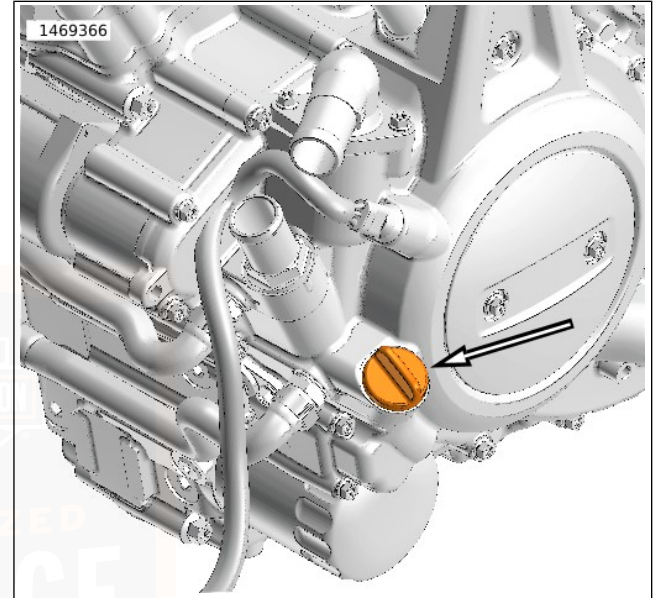

Figure 52. Engine Oil Filler Plug/Dipstick
- a. Figure 52 Remove engine oil dipstick.